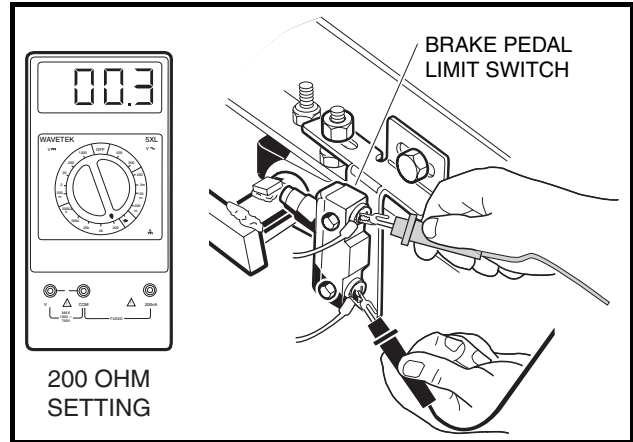

Figure 11-42 Brake Light Limit Switch Test – Brake Pedal Down
5. With the brake pedal pressed, the multimeter should indicate continuity (**Figure 11-42, Page 11-41**).